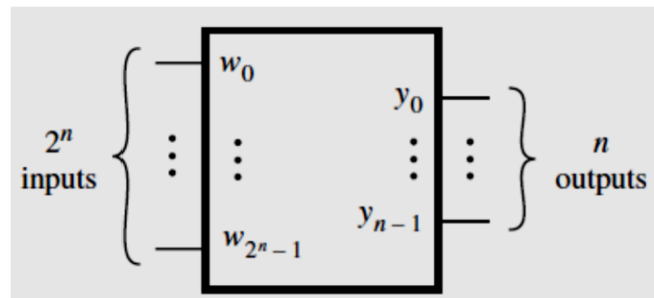

Figure 8.2 Encoder
- A binary encoder encodes information from  $2^n$  inputs into an  $n$ -bit code, as indicated in Fig. 8.2.